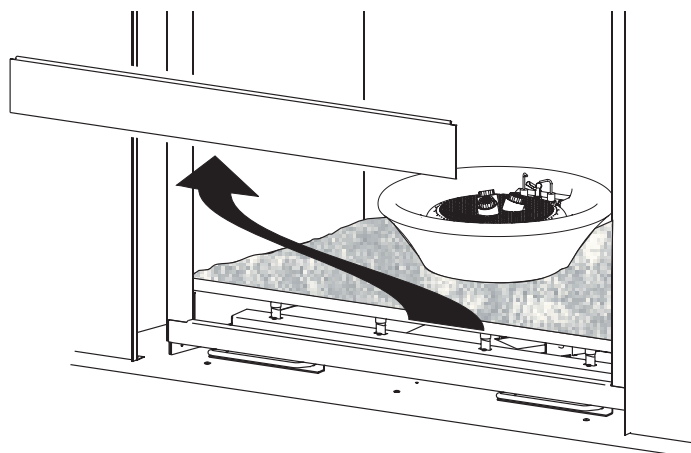

Figure 88
2. Lift the light access panel up and out of the firebox. **See Figure 88.**